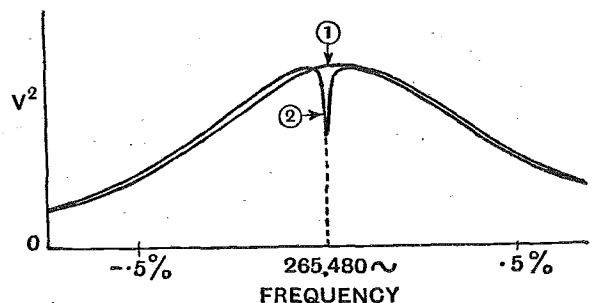

Fig. 10.—Resonance curve obtained from the circuit of Fig. 9.
A copy (Fig. 10) of such a resonance curve obtained by means of a recording apparatus developed by the
In Fig. 10, curve (1) is the simple resonance curve without the crystal, (2) the curve obtained with the crystal.